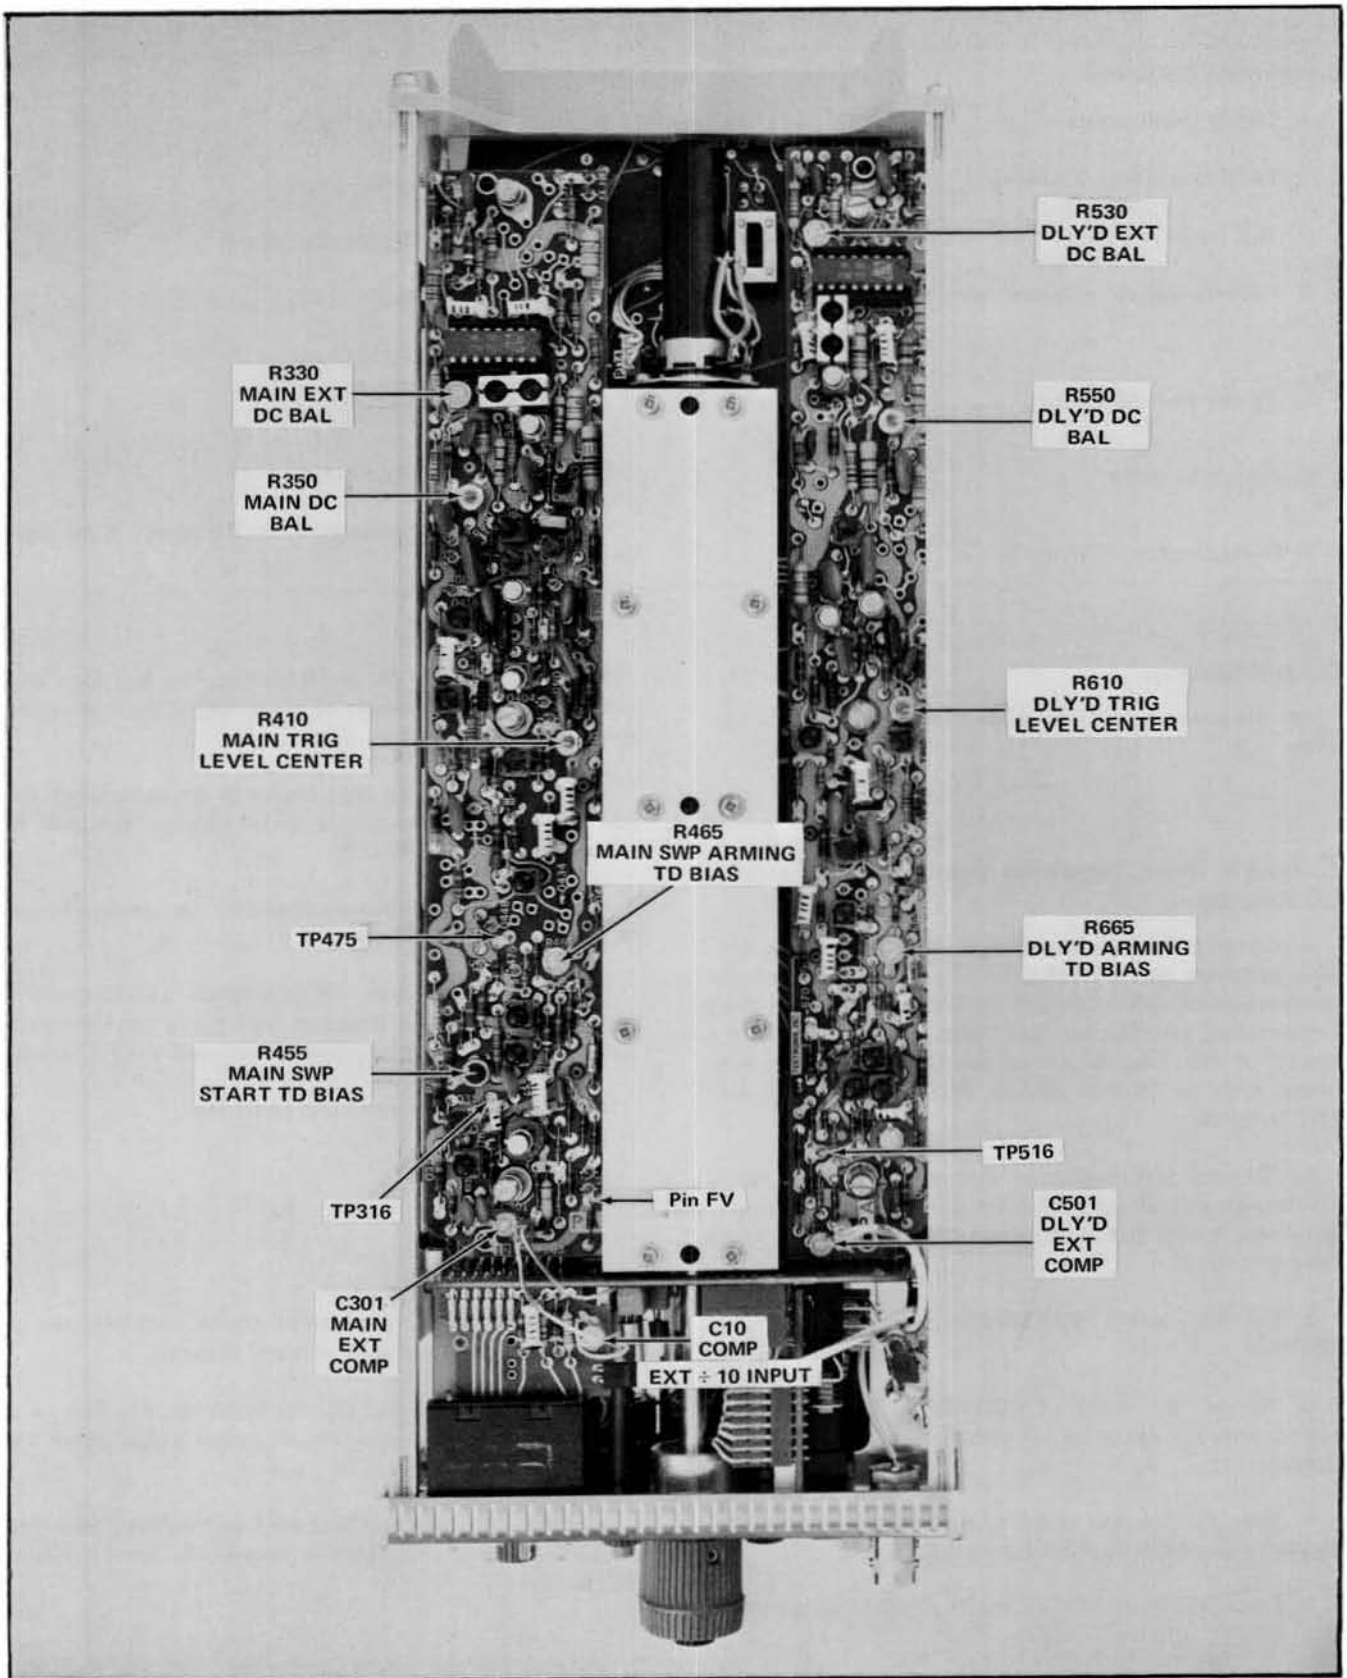

Fig. 5-1. Location of Trigger System adjustments (Main and Delayed Trigger boards).
h. ADJUST—Main DC Bal R350 (see Fig. 5-1) for a triggered display with position of sweep trigger point the same as noted in part e.
n. ADJUST—Main Ext DC Bal R330 (see Fig. 5-1) for a triggered display with position of sweep trigger point the same as noted in part k.
e. ADJUST—Main Trig Level Center R410 (see Fig. 5-1) to trigger at CRT center.
e. ADJUST—Main Swp Start TD Bias R455 (see Fig. 5-1) to midrange and change the MAIN TRIGGERING switch to AUTO.
h. ADJUST—Main Swp Arming TD Bias R465 (see Fig. 5-1) counterclockwise to a point where the sweep just free-runs. Then rotate R465 about 30° clockwise.
l. Connect a 5.6 kilohm resistor from TP475 to pin FV on MAIN TRIG circuit board (see Fig. 5-1).
h. ADJUST—Dly'd DC Bal R550 (see Fig. 5-1) for triggered display with position of trigger point as noted in part e.
d. ADJUST—Dly'd Trig Level Center R610 (see Fig. 5-1) for a triggered display with the intensified sweep trigger point at or near CRT center.
f. ADJUST—Dly'd Arming TD Bias R665 (see Fig. 5-1) for triggered intensified display.